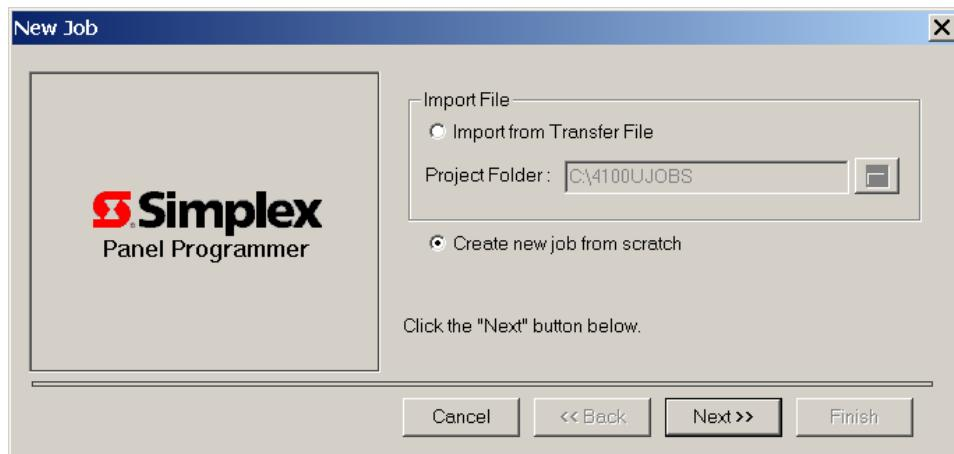

Figure 3-2. New Job Wizard
In both cases, the New Job wizard, shown in Figure 3-2, appears. The first screen prompts you to choose whether the job is being created from scratch or imported from an OASYS transfer file. Refer to “Creating a New Job from Scratch” or “Importing an OASYS Transfer File” below for specific information.
3. In the **Path** field of the Create New Job dialog (refer back to Figure 3-2), specify the directory path to which the job file should be stored. The default directory for a standalone panel is \4100UJOBS. (Network jobs default to \NETJOBS\NETWORK\NETNAME, where NETWORK represents the job's directory and NETNAME is the name of the network job.) If necessary, use the folder icon to the right of the text entry field to specify an alternative directory or drive.
1. Select the button labeled **Import from Transfer File**. (Refer back to Figure 3-2 for the location of this button.)